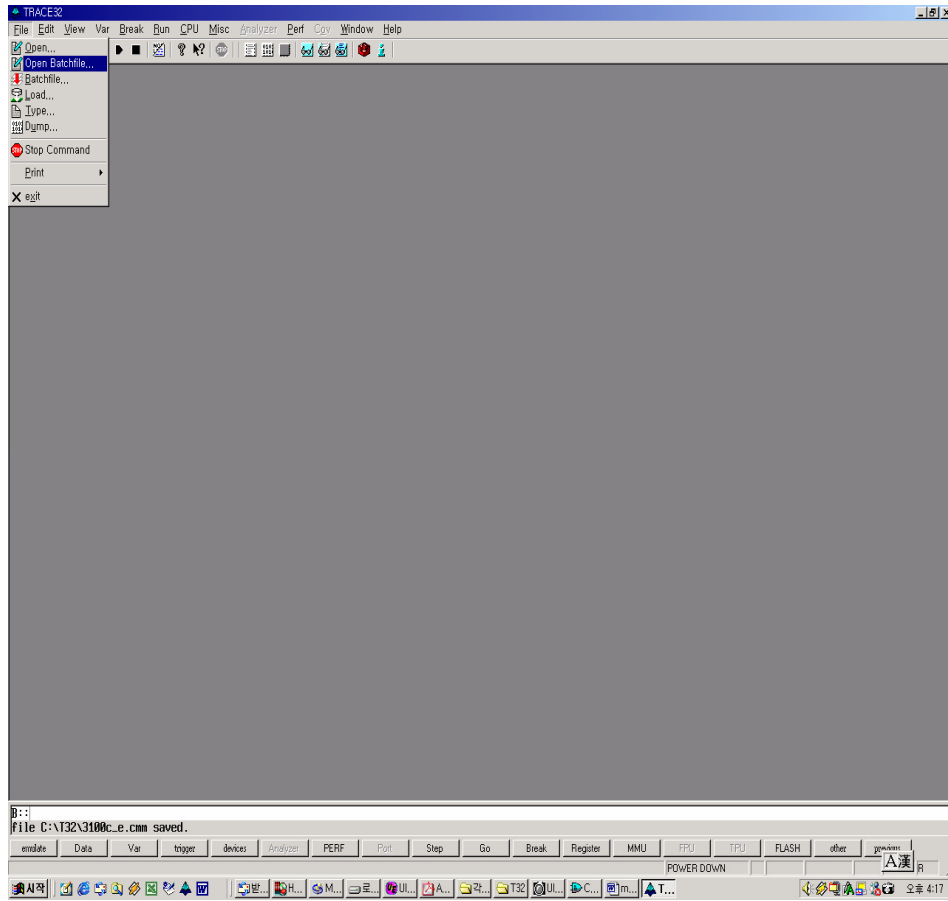

Figure 5.5
1. CLICK “FILE->OPEN BATCHFILE. (Figure 5.5)” on the tool bar